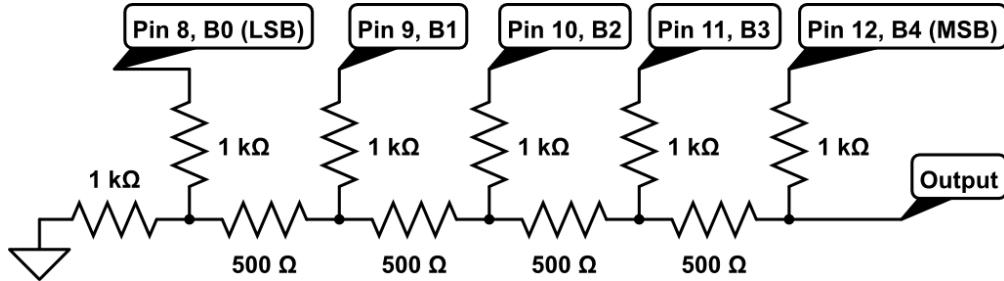

Figure 7: A 5-bit R-2R Ladder DAC
- Construct the circuit shown in figure 7 and connect to the indicated pins on your microcontroller board. You will be using the circuit for the rest of lab.